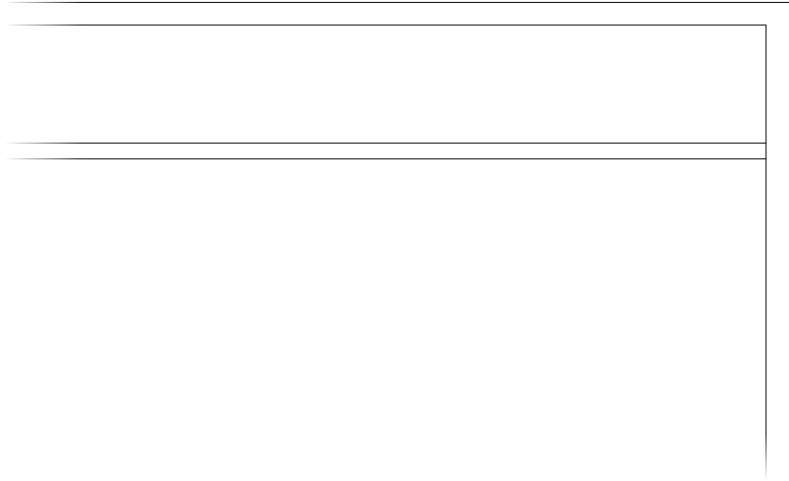

FIGURE 4.24: Offsetting the lines for the first wall
2. Offset the inside line of the upper exterior wall 2'-6" (762 mm) downward; then offset this new line 4" (100 mm) downward (see Figure 4.24).